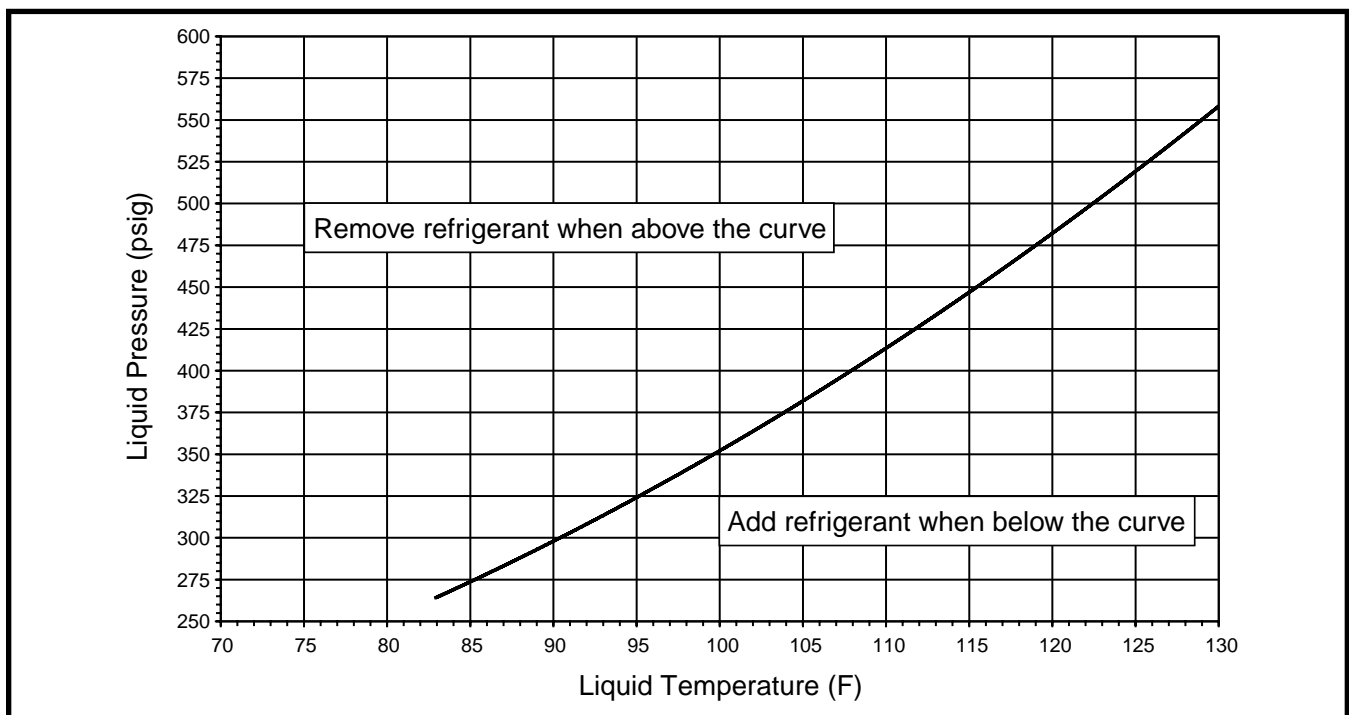

Figure 3. Charging Chart for S4BD-018 Series (1.5 Ton Units) - TXV Matches
- Refrigerant charging charts are applicable only to matched assemblies of NORDYNE equipment and listed airflows for the indoor coil. Refer to Figures 3 - 9 (pages 8 - 11) and Tables 3 - 9 (pages 12 -15) for correct system charging.
3. Determine the required liquid refrigerant pressure from the appropriate charging chart (Figures 3 - 9).
- Charging charts are valid for a variety of indoor, return air conditions and are most influenced by the outdoor ambient temperature, outdoor fan operation and the unit operating voltage. Before using these charts, make sure the unit is in a stable operating mode. As shown in the charging charts (Figures 3 - 9, pages 8 - 11), the ideal system sub-cooling can vary over the range of operation. Reference the charts to determine the ideal amount of sub-cooling for a given liquid pressure. Units charged to other values will not perform at the rated unit efficiency (EER) or rated Coefficient of Performance (COP) in heating mode.